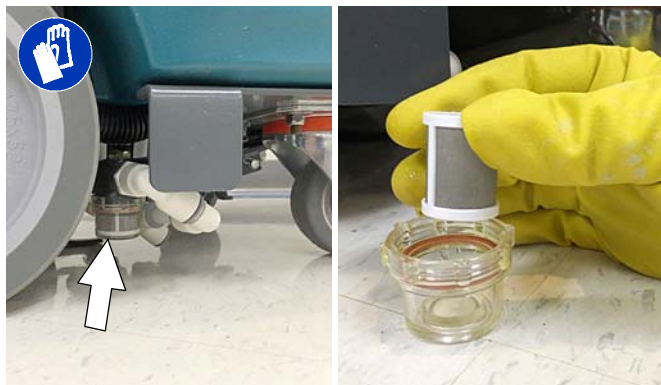

FIG. 110
1. Drain solution tank. Remove the solution tank filter and clean screen (Figure 110). Turn the filter bowl counter-clockwise to remove.